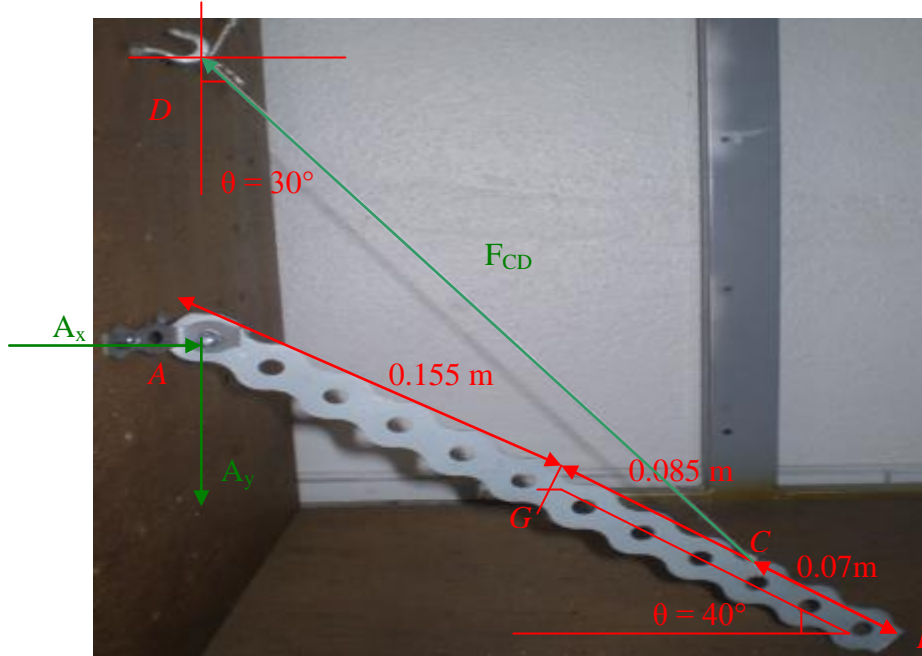

Figure 10: Setting of hinge subjected to two dimensional force system
3.1 The beam has a weight of 0.50 N (50g) and a center of gravity at G as shown in Figure 10, 11 and 12. Determine the rope force in CD needed to just start lifting the beam (i.e. so the reaction at B becomes zero). Also, determine the horizontal and vertical components of force at the hinge at A .